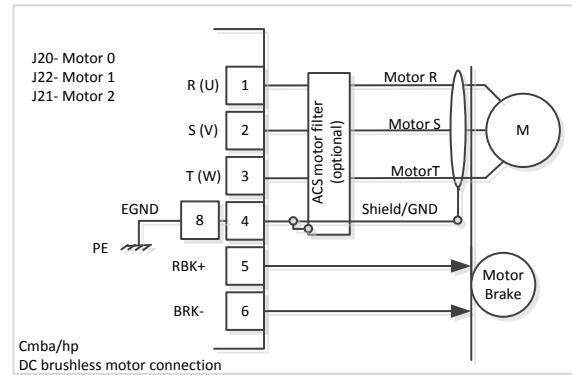

Figure 2: 3-Phase Motor Connection
A 3-phase motor connection is depicted in Figure 2. An optional motor filter is shown in series between the drive and the motor. A shielded cable should be used, terminated in the EGND pin which is internally connected to the chassis (PE). If needed, the shield/GND may be connected to the